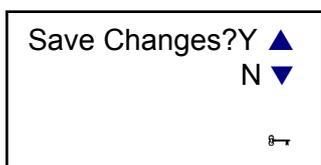

Figure 44. Display of Save Date/Time
- If the 'Date' option is chosen the current system date is displayed e.g. 29/ 06/ 01 and likewise the 'Time' option will display the current system time e.g. 14: 25: 31. As described previously in section 7.4, each number can be set (when it is highlighted) by using the '▲' and '▼' keys while the 'ENTER' key is used to move from day to month to year or from hours to minutes to seconds. Once either the year or the seconds have been set and the 'ENTER' key pressed the operator is asked whether any changes are to be saved as shown in figure 44.